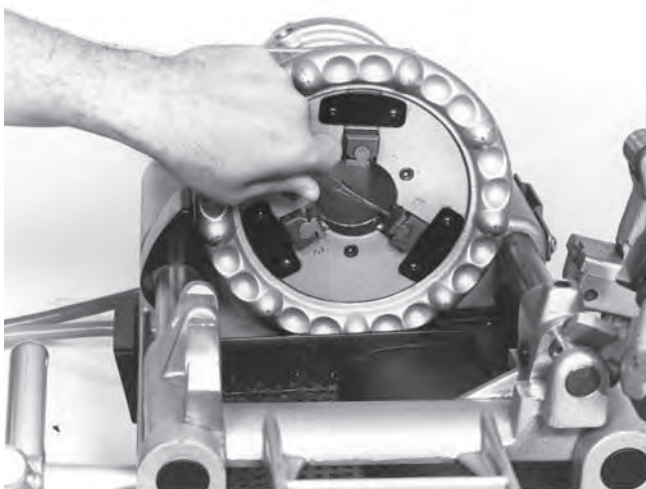

Figure 13 – Replacing Jaw Inserts
1. **To remove insert** — place punch into spring dé-tente slot of jaw and push down. (Figure 13)